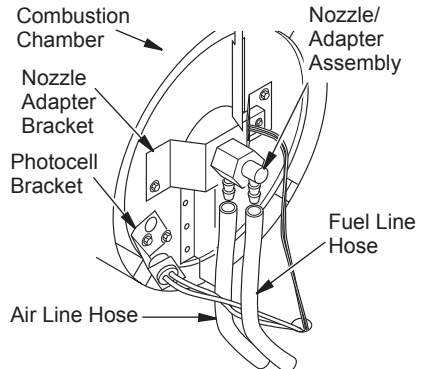
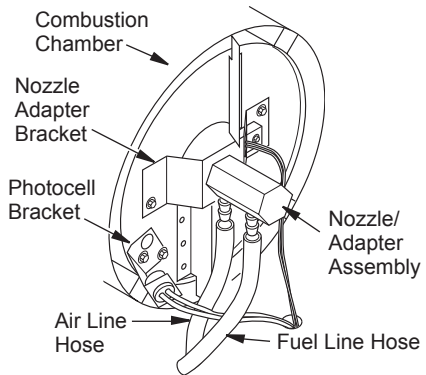
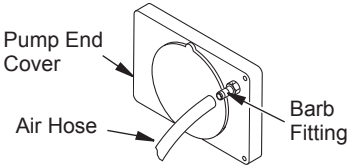

Figure 17 - Removing Air and Fuel Line Hoses (125T and 170T Models Only)
Figure 20 - Removing Air and Fuel Line Hoses (200T Model Only)
Figure 22 - Air Hose to Barb Fitting
- Replace photocell in photocell bracket. Route wires as shown in Figure 17.
- Remove fuel and air line hoses from nozzle assembly (see Figure 17).
- Remove two nozzle adapter bracket screws (see Figure 20).
- Inspect fuel and air line hoses for cracks and/or holes. If fuel line hose is damaged, disconnect from nozzle adapter (see Figure 17, page 12 or Figure 20 according to model) and from fuel filter (see *Fuel Filter*, page 11). If air line hose is damaged, disconnect from nozzle adapter (see Figure 17, page 12 or Figure 20 according to model) and from barb fitting on pump end cover (see Figure 22, page 14).
- Install new air and/or fuel line. Attach one end of air line hose to barb fitting on pump end cover (see Figure 22, page 14) and the other end to nozzle adapter (see Figure 17, page 12 or Figure 20 according to model). Attach one end of fuel line hose to fuel filter (see *Fuel Filter*, page 11) and the other end to nozzle adapter (see Figure 17, page 12 or Figure 20 according to model).
Note: Route hoses as shown in Figure 17, page 12 or Figure 20 according to model. Hoses are not to touch photocell bracket.